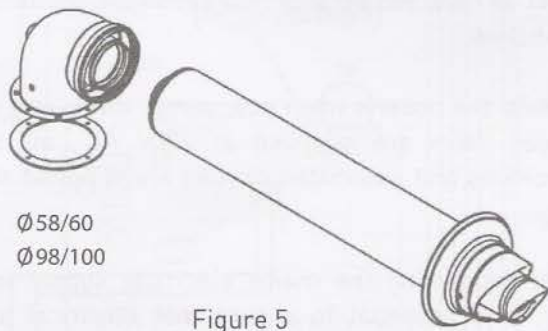

Figure 5
8.2. Various types of flues can be purchased with the boiler but the standard 700+/-5mm flue kit (figure 5) is supplied with the boiler, which can be routed to the rear, left or right of the appliance by means of a 90° bend. The bend is connected to the boiler using the screws provided and sealed with the gasket.